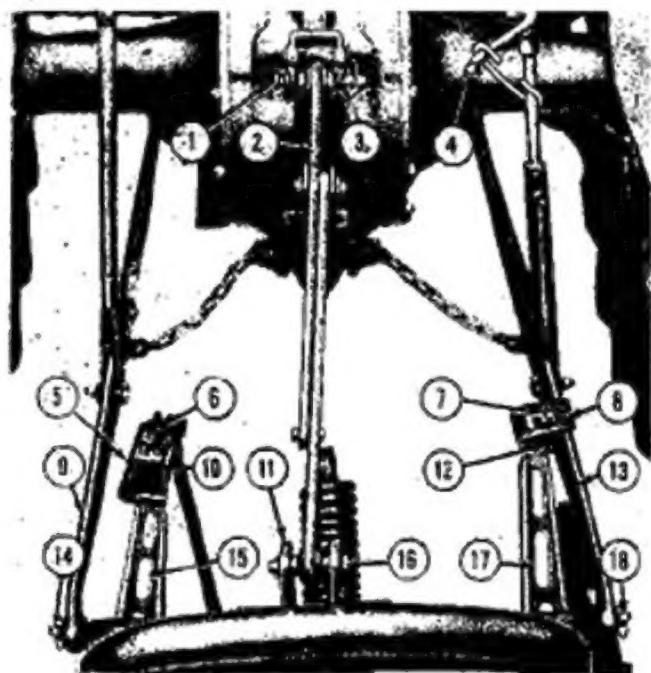
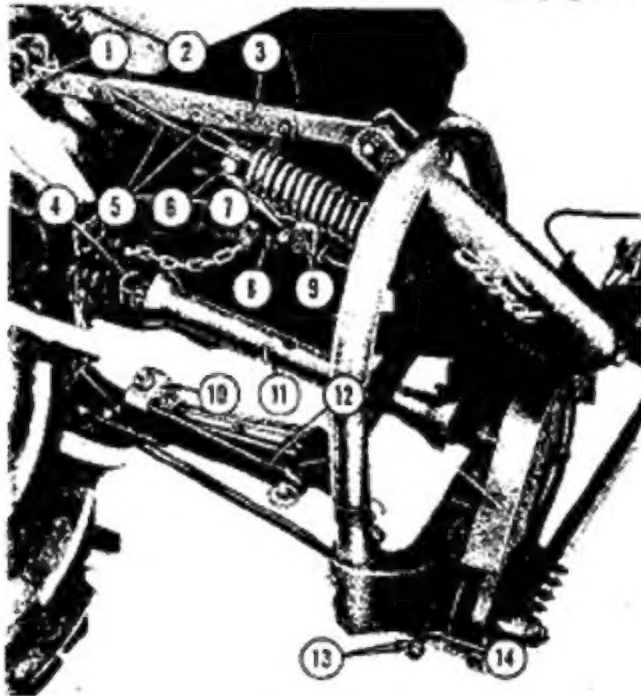
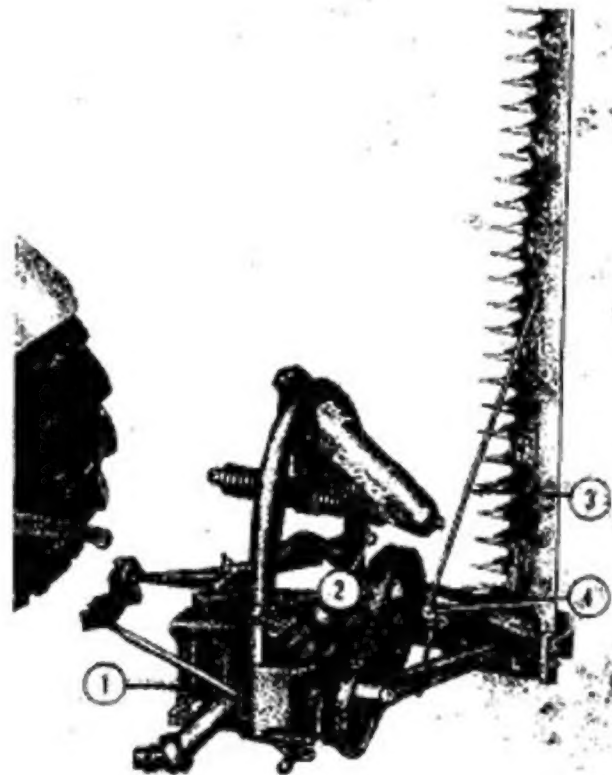

Figure 2
Figure 6
Figure 7
2. Back the tractor into position, as shown in Figure 2, and attach the tractor left lower link (9) to the lift link pin (14). Secure with the tractor link pin.
3. Roll the tractor and/or adjust the leveling crank (4), until the tractor right lower link (13) is aligned with the right link pin (18) and secure with the tractor link pin as shown.
5. Start the tractor engine and raise the mower frame assembly just off the ground with the tractor hydraulic control lever and shift the mower to the left to attach the left stabilizer (15). Figure 2, when attaching the mower to Ford 2000 and 3000 Tractors. Position the stabilizer guide (5) under the tractor left lift link (9), set the clamp (10) over the top of the link (9) and tighten the nut (6) securely.
7. Shift the mower frame assembly to the right to attach the right stabilizer (17), Figure 2. Position the stabilizer guide (12) under the tractor right lift link (13), set the clamp (8) over the top of the link as shown, and tighten the nut (7) securely.
8. Raise the mower with the tractor hydraulic control lever and attach the mower lift spring (7), Figure 6, to the spring links (5) with the $\frac{3}{4}$ " x $1\frac{7}{8}$ " headed pin (6) and linch pin provided. Lower the mower and turn off the tractor engine. See page 12 for lift spring adjustment.
9. Remove the tractor P.T.O. cup and attach the female splined end of the mower drive shaft (11) to the tractor P.T.O. shaft securing it with the snap coupler (4) on the yoke. See Figure 6.
10. Level the mower with the tractor leveling crank (2), Figure 6, so the lower frame is parallel to the ground. Secure the leveling crank to the lift rod with the leveling crank lock, as shown in Figure 2. Place the transport rod (3), Figure 7, in the clips (2) when not in use.
1. Disengage the tractor P.T.O. and raise the cutter bar by hand to the vertical position shown in Figure 7.
2. Insert the notched flat end of the transport rod (3), Figure 7, into the cutter bar and rotate the rod until the notch locks on the cutter bar. Adjust the position of the cutter bar and the transport rod to align the hooked end of the rod and the eye (4) on the lower frame.
1. Make sure the mower lower frame is parallel to the ground and adjust if necessary, with the tractor leveling crank (2), Figure 7. The tractor right lower link should be approximately three inches lower than the left lower link.
2. Raise the cutter bar to transport position and install the transport rod (3) as shown in Figure 7.
3. Detach the lift spring (7), Figure 6, from the links (5), by removing the pin (6) and linch pin.
4. Depress the snap coupling (4) and detach the mower drive shaft (11) from the tractor.
5. Shut off the tractor engine, place a cement block (1), Figure 7, or other suitable block under the mower to support the mower in approximately the operating position and lower it onto the block.
6. Detach the right stabilizer (9), Figure 6, and the left stabilizer (10) from the tractor lower links by loosening the nuts on the clamps.
7. Detach the upper link (3) from the tractor hydraulic lift rocker (1), Figure 6.
8. Detach the tractor lower links (8) and (12), Figure 6, from the mower, start the tractor engine, and slowly drive the tractor clear of the mower.